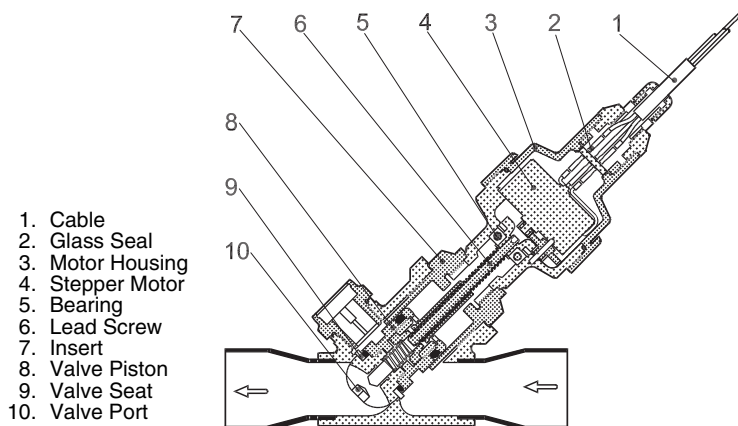

Fig. 47 — Cutaway Views of the Electronic Expansion Valve
Electronic Expansion Valve (EXV) — See Fig. 47 for a cutaway view of the EXV. High-pressure liquid refrigerant enters valve through the top. As refrigerant passes through the orifice, pressure drops and refrigerant changes to a 2-phase condition (liquid and vapor). The electronic expansion valve operates through an electronically controlled activation of a stepper motor. The stepper motor stays in position unless power pulses initiate the two discrete sets of motor stator windings for rotation in either direction. The direction depends on the phase relationship of the power pulses.
3. The expansion valve motor is hermetically sealed inside the top portion of the valve. See Fig. 47. Disconnect the EXV plug. Carefully unscrew the motor portion from the body of the valve. The EXV operator will come out with the motor portion of the device. Reconnect the EXV plug.
4. Enter the appropriate EXV test step under the (**QUIC**) Service Test mode Locate the desired item **Circuit A EXV Position, EXV.A, Circuit B EXV Position, EXV.B, or Circuit C EXV Position, EXV.C**. Change the position to 100%. Observe the operation of the lead screw. See Fig. 47. The motor should be turning, raising the operator closer to the motor. Motor actuator movement should be smooth and uniform from fully closed to fully open position. Select 0% and check open to closed operation. If the valve is properly connected to the processor and receiving correct signals, yet does not operate as described above, the sealed motor portion of the valve should be replaced.